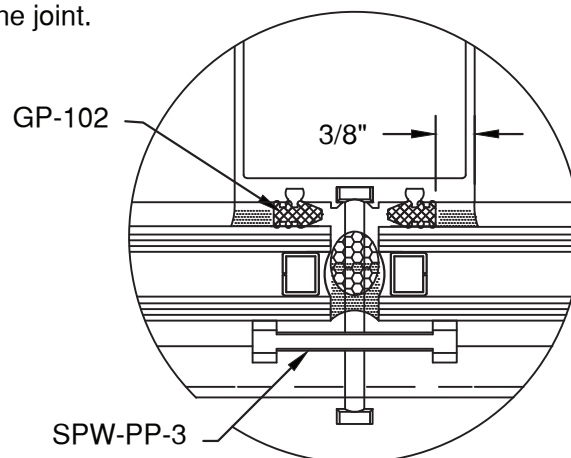

Figure 20
3.14 Once glass is centered into opening, install temporary clips (SPW-PP-3) at 24" o.c. or minimum 3 per lite. Install GP-102 spacer along each side of vertical mullion pushing spacer behind glass to create a sealant joint of minimum 3/8" depth. Spacer should be cut vertical opening plus 1" and placed in opening to extend 1/2" above and below edge of horizontals. This joint should then cleaned using isopropyl alcohol and sealed using an approved structural silicone. **SEE FIGURE 20**
- 3.23 After installation of glass is complete, install GP-113 interior wedge around opening and for SSG system install GP-102 spacer along each side of vertical mullion pushing spacer behind glass to create a sealant joint of minimum 3/8" depth. (**SEE FIGURE 20, page 22**) Spacer should be cut vertical opening plus 1" and placed in opening to extend 1/2" above and below edge of horizontal. This joint should then cleaned using isopropyl alcohol and sealed using a structural silicone. When using pressure plates for SSG system, they will extend maximum 3 bays and should have 1/2" joint located at mullion centerline. Insert backer rod between pressure plates and seal. (**SEE FIGURE 25**)